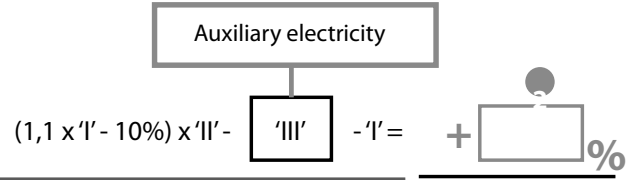

Figure 5
7. the water heating energy efficiency class of the package of combination heater, temperature control and solar device, determined in accordance with the figure 5 in the following pages.
(b) the elements set out in Figure 5 for evaluating the water heating energy efficiency of a package of combination heater, temperature control and solar device, where the following information shall be included: